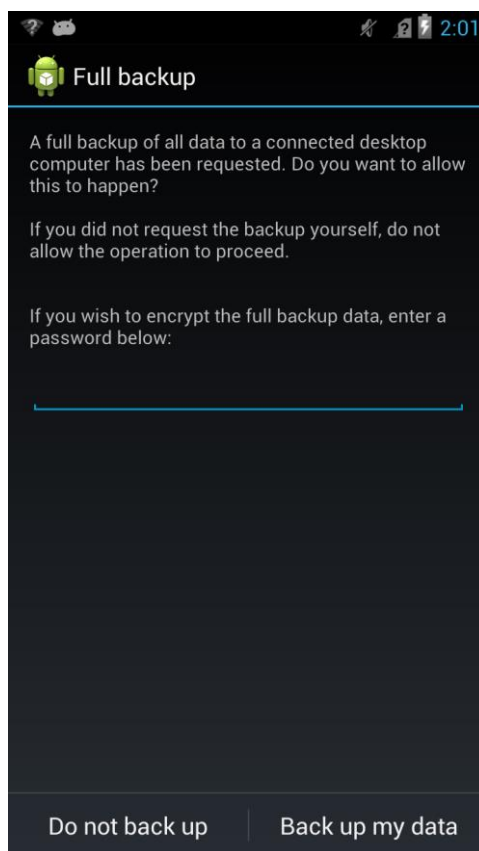

Figure 4-17: Full backup
3. Click on the "Backup" button and press *"Back up my data"* on the device side to start the backup process (Figure 4-17).